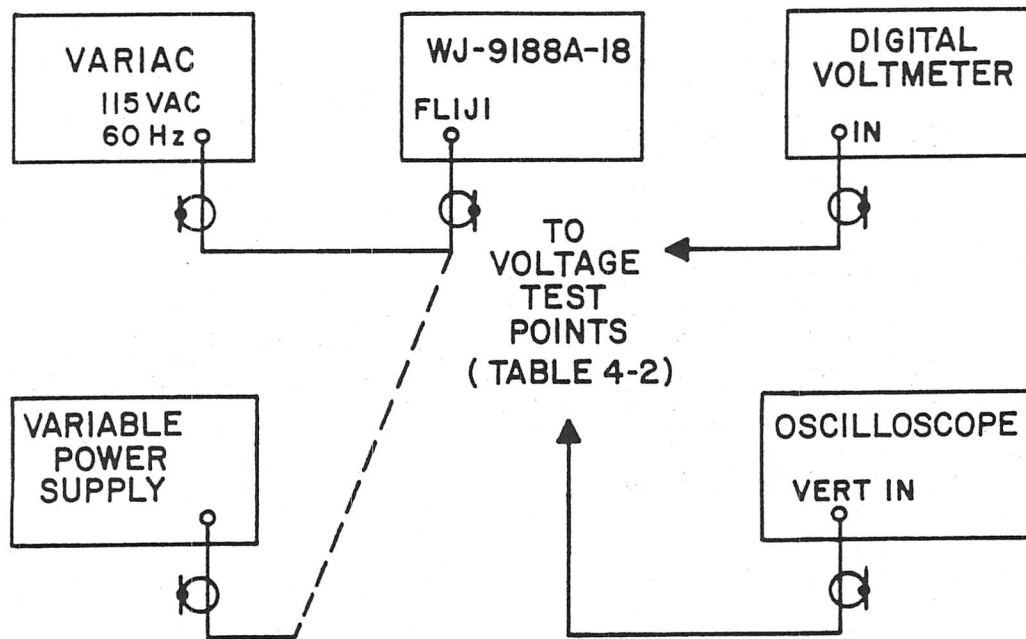

Figure 4-4. Power Supply Performance, Test Setup
1. Connect test equipment as shown in Figure 4-4 (solid lines). Energize all equipment.
8. Disconnect the variac. Connect power supply to signal monitor as shown in Figure 4-4 (broken lines).